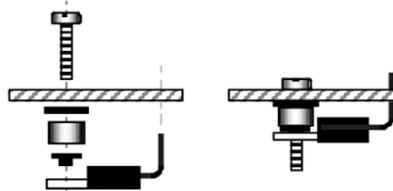

Figure 6-31
- Prepare the leads of Q7 as shown in Figure 6-31. Bend the leads upward, away from the tab—the opposite of the way you bent the leads of Q6. Form the leads using the shaft of a small screwdriver to create gradual bends. Do not install Q7 yet.
- Insert a 4-40 x 1/2" (12.7 mm) screw through the PC board hole for Q7's tab (see Figure 6-31). Then slip the hardware listed below onto this mounting screw from the bottom side. (The shoulder washer can be found with the MISCELLANEOUS components.)